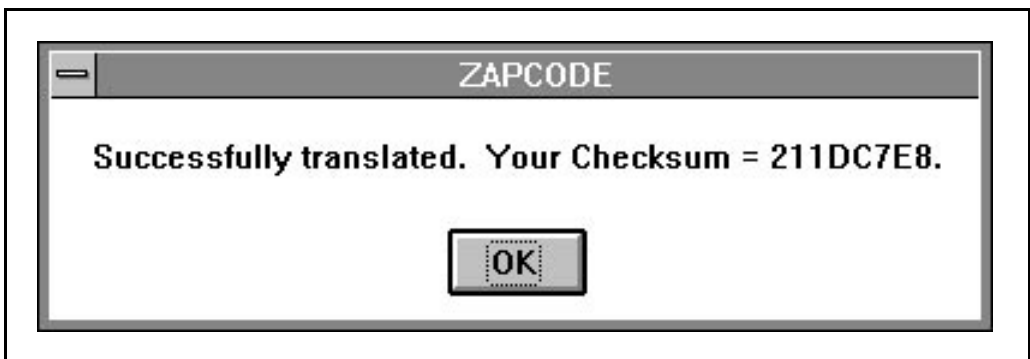

Figure 8-4. Example of a Checksum Message
5. Click on the **OK** button in the message box. The file will be translated and a checksum message will be displayed on the screen (Figure 8-4).